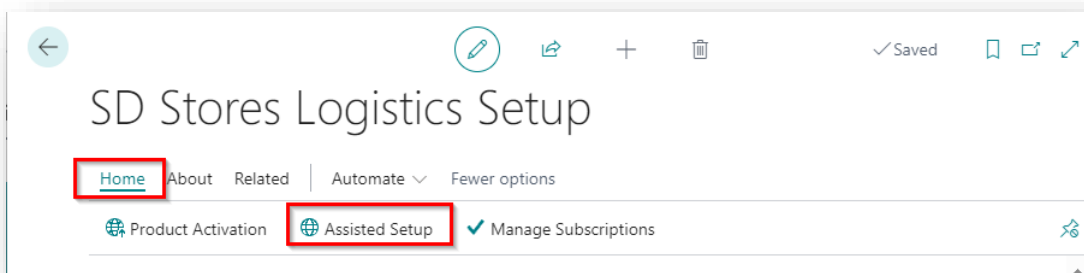

Figure 4-1
1. In the **SD Stores Logistics Setup**, from the menu choose the **Home** group, and then **Assisted Setup** (Figure 4-1).